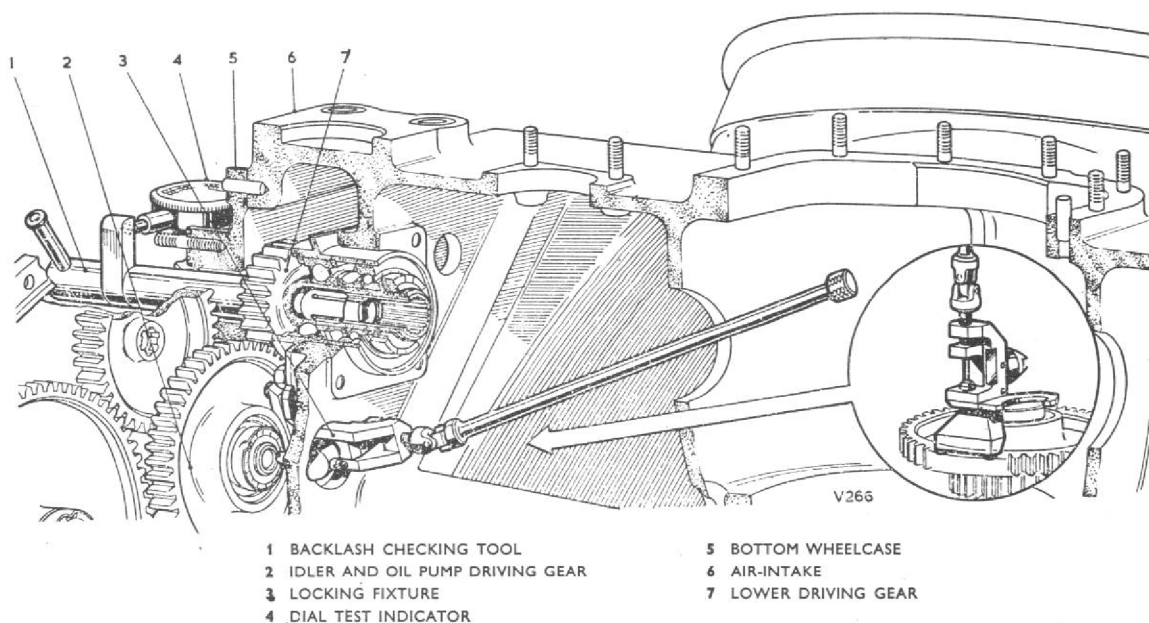

Fig. 7. Bottom wheelcase backlash checks
- (7) Secure the wheelcase with four equally-spaced slave washers and nuts.
- (8) Tighten the handle of the locking fixture to lock the idler gear in the wheelcase.
- (9) Clamp a dial test indicator to a convenient position on the wheelcase and locate the stylus on the scribed line of the backlash checking tool.
- (10) Check that the backlash between the driving gear and the idler gear is within the limits (fig. 7).
- (11) Remove the backlash tool and refit the cover to the vertical drive shaft.
- (12) Remove the dial test indicator, the bottom wheelcase, and the locking fixture.